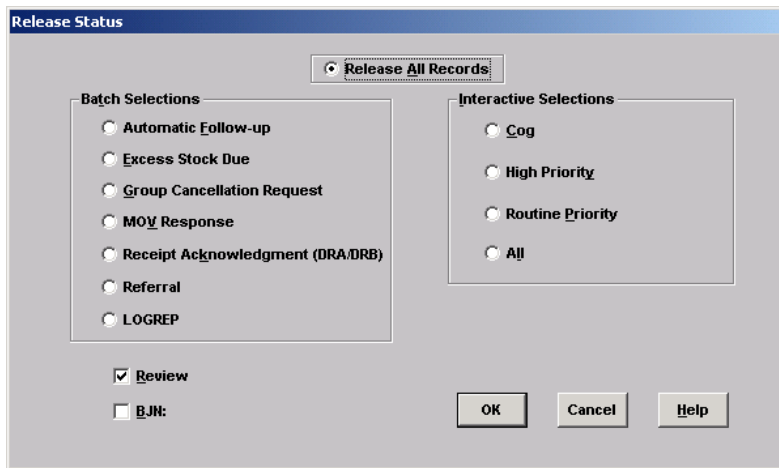
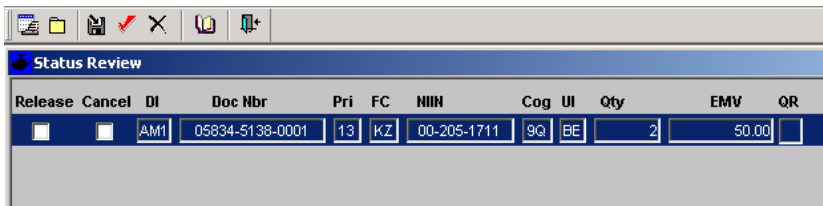
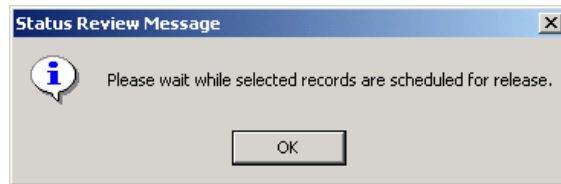
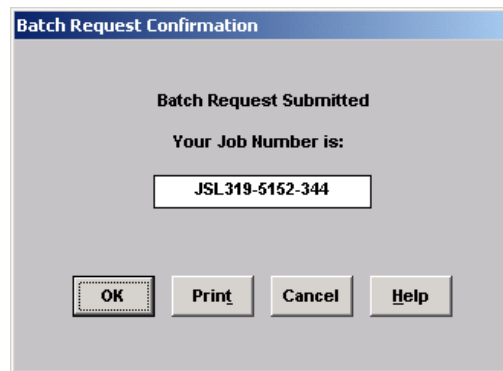

Figure 6.16
Figure 6.17
Figure 6.19
Figure 6.20
6.5.1 The **Release Status** window (Figure 6.16) appears with default values displayed.
6.5.2 With **Review** and **OK** selected on the **Release Status** window (Figure 6.16), the **Status Review** window (Figure 6.17) displays for user verification or cancellation.
- 6.5.3 If **Review** is not selected on the **Release Status** window (Figure 6.16), status records are automatically released. The **Status Review Message** window (Figure 6.19) appears while selected records are being scheduled for release. Click **OK**. Once scheduled, the **Batch Request Confirmation** window (Figure 6.20) appears. Notate batch job number and click **OK**.